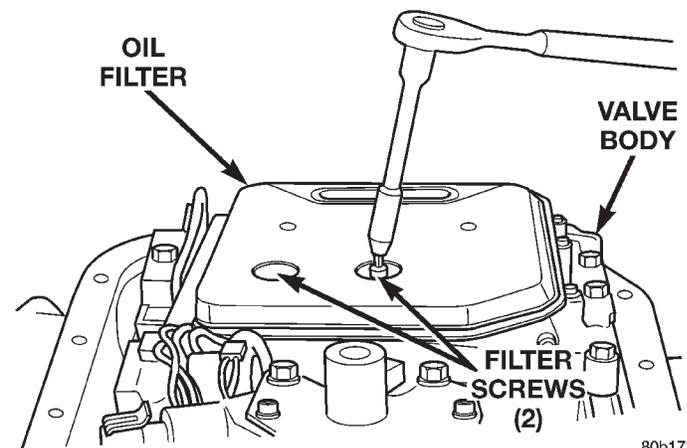

Fig. 114 Oil Filter Removal
(1) Clean transmission exterior with steam gun or with solvent. Wear eye protection during cleaning operations.
(2) Place transmission in a vertical position.
(3) Measure and record input shaft end play readings.
(4) Remove shift and throttle levers from valve body manual lever shaft.
(5) Place transmission in horizontal position.
(6) Remove transmission oil pan and gasket.
(7) Remove filter from valve body (Fig. 114). Keep filter screws separate from other valve body screws. Filter screws are longer and should be kept with filter.